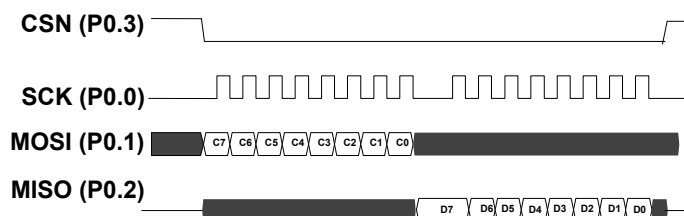
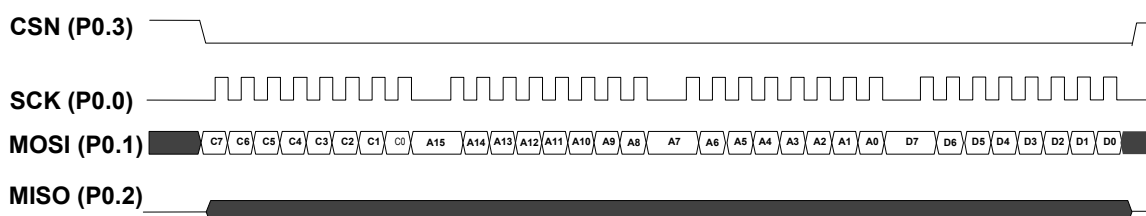

Figure 63. SPI read command without address
Figure 66. SPI OTP write operation, shown with 1 databyte
An SPI command always starts with the external master sending a command byte to the OTP slave, followed by a variable number of address and data bytes. The number of address and data bytes is specific to each command, as shown in Table 119. on page 141. In Figure 63. on page 141 to Figure 66. on page 142, C_n are the SPI command bits. A_n are the address bits and D_n are the data bits (note: MSBit in each byte first). After $\overline{CSN}$ is deactivated, an OTP write command requires the chip to do the OTP programming, and this will take some time to complete. Therefore, it is advised to not issue a new command until the specified amount of time has elapsed. Alternatively, you can repeatedly issue $RDSR$ commands until the $FSR.RDYN$ bit reads back as 0.
The SPI command $RDSR$ reads out the content of the OTP status register FSR , and consists of one-command byte and one-data byte as shown in Figure 63. on page 141. By keeping the $\overline{CSN}$ line active after the first data byte, FSR will be repeatedly re-read until $\overline{CSN}$ is set inactive.
3. The `PROGRAM` command is sent on the `MOSI` line followed by the two-byte address (address of the first byte) and the data to be programmed/ written, as shown in Figure 66. on page 142.
The SPI command `RDFPCR` reads out the content of the OTP protect configuration register `FPCR`, and consists of one command byte and one data byte as shown in Figure 63. on page 141.
The sequences of command and data in an SPI command are found in Figure 64. on page 141 and Figure 66. on page 142. In these figures only 1 byte of data is shown. Typically for read and write data transfers, the block should be as long as possible (64 to 256 data bytes gives the best performance).